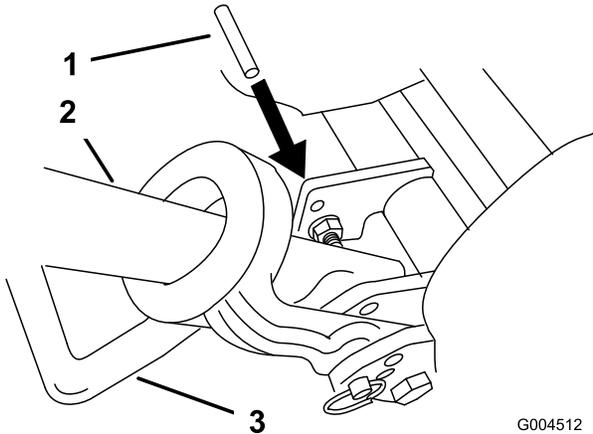

Figure 51
2. Lower kick stand. Insert a 1/4" dia. pin or equivalent into frame hole above kick stand mounting bolt (Figure 51).